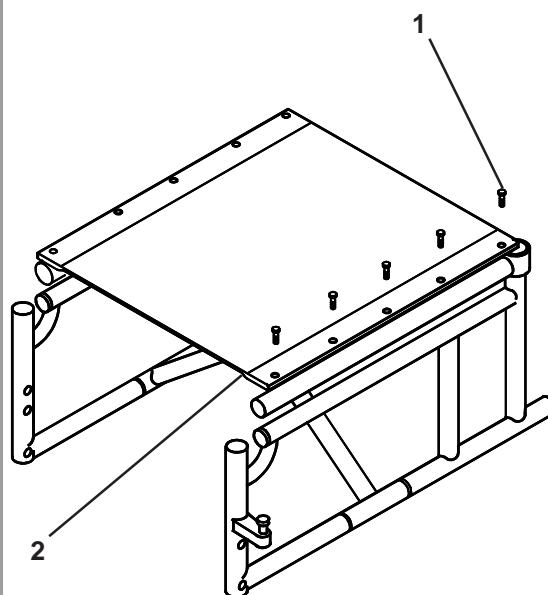

Fig. 52
The seat sling can be re-tensioned through the use of Velcro® panels underneath the seat (2). Remove the No 2 Philips screws (1) retaining the left side of the seat sling with a No 2 Philips screwdriver, re-adjust the Velcro® to bring the sling to its correct tension. Replace the screws and tighten to 5-8Nm torque (Fig. 52).